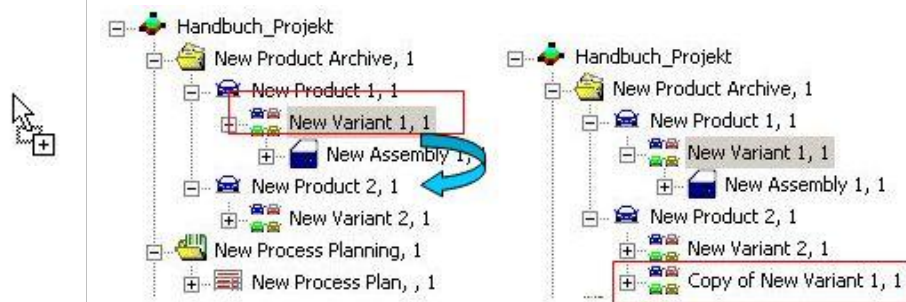

Figure 16: Copying by Drag and Drop within a Structure
- 1) First select the object you want to copy – in Figure 16 the variant New Variant 1 is selected.
Confirm the message and the object is copied. (Please refer to the Figure 16 for copying of the New Variant 1).